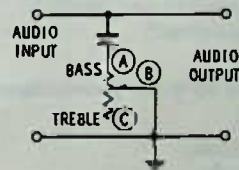

Fig. 2-20. Simple tone-control circuit using a variable resistor and a capacitor.
Some tone-control circuits, such as the one shown in Fig. 2-20, may use only two terminals on the potentiometer. The resistor here allows the capacitor to bypass more or less of the high frequencies in an audio circuit. With the arm (B) at the (A) side, the capacitor is a direct bypass to ground and the audio will sound "bassy." With the arm at the (C) end, the resistance in series with the capacitor allows it to pass LESS of the higher frequencies and so there is more treble in the sound.